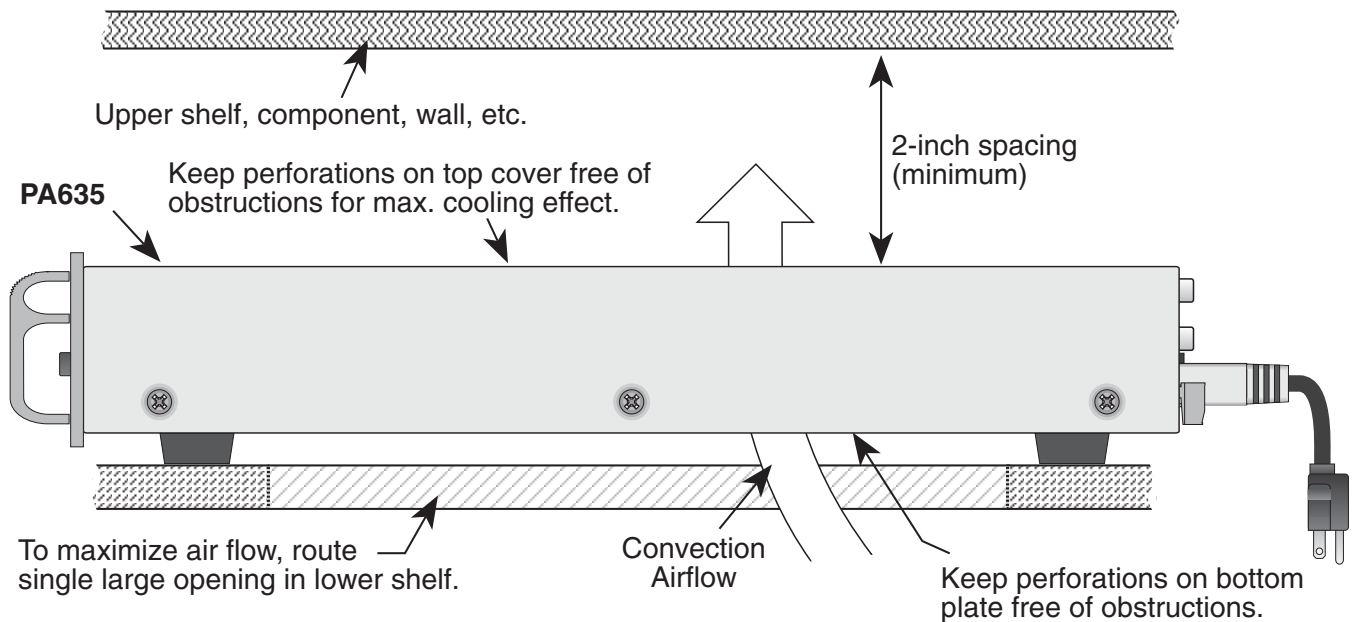

Figure 5 – Horizontal Mounting
2. If mounted in an equipment cabinet or other confining location, allow at least 2 inches of space above the top cover (see Fig. 5). Be sure there are large openings in the shelf below the unit and in the cabinet to allow the entry of cool air and the escape of warm air.